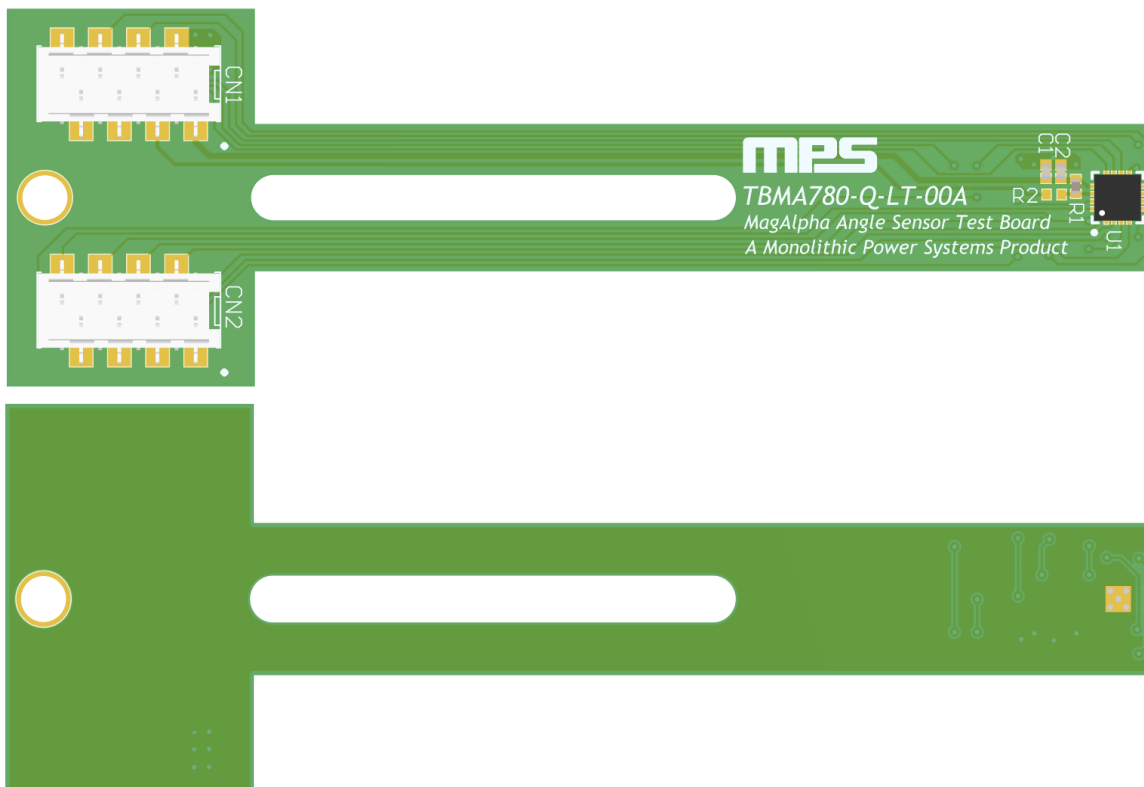

Figure 22: LT Type 3 Board Overview
Figure 22 shows an overview of the Type 3 long (LT) board.